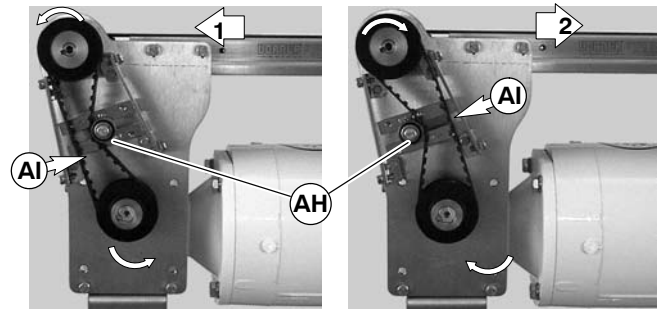

Figure 44
10. Depending on conveyor belt travel (1 or 2 of Figure 44), locate timing belt tensioner (AH), as shown. Tension timing belt to obtain 1/8" (3 mm) deflection for 1 lb (4.3 N) of force at timing belt mid-point (AI). Tighten tensioner to 38 ft-lb (51 Nm).